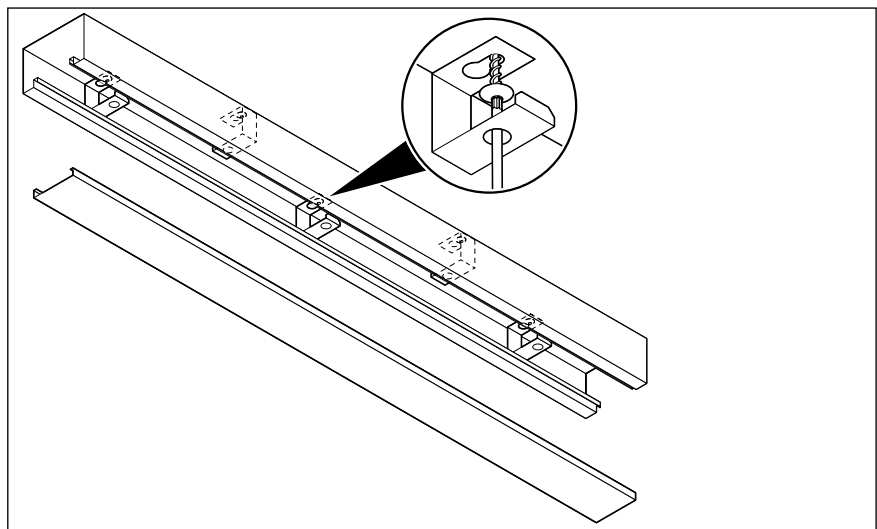

Fig. 16: Using cable clamps for ceiling mounting
- Fix the duct to the inner holes together with cable clamps for ceiling mounting (BSKM-BD 0711 or BSKM-BD 1025) (see Fig. 16 on page 22).